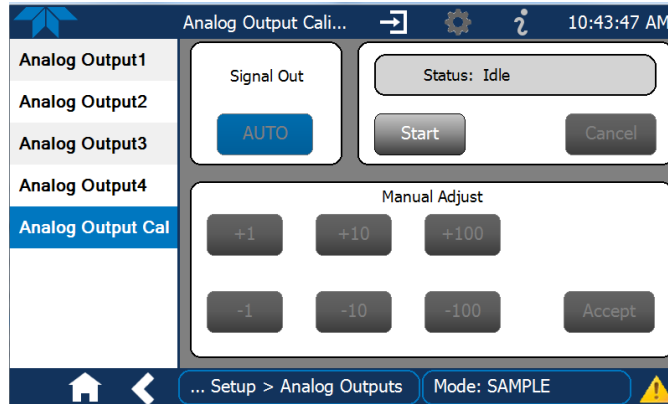

Figure 2-40. Analog Outputs Group Calibration Screen
- AUTO for group calibration (Figure 2-40) of the analog outputs (cannot be selected when Current is selected for the Range)